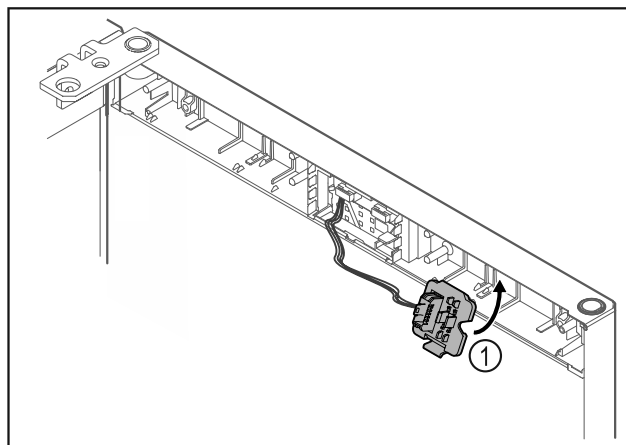

Fig. 14
- ▶ Latch the plug holder Fig. 14 (1) on the opposite side.*